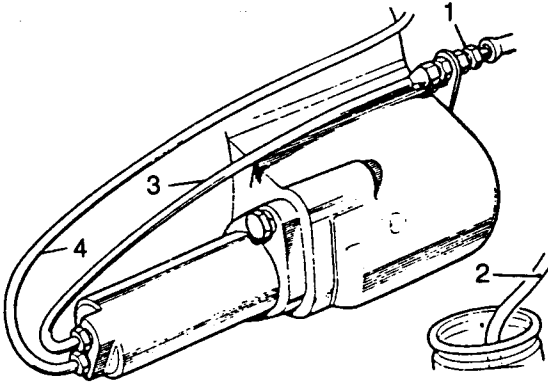

Fig H3.6
- (1) Refer to Fig H3.6. Slacken the bleed screw (1) and drain the hydraulic fluid into a suitable container using a bleed tube (2).
- (2) Disconnect the bleed pipe (3).
- (3) Disconnect the fluid pipe (4).